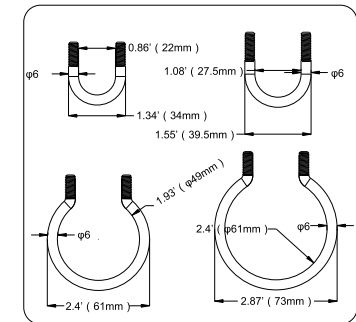
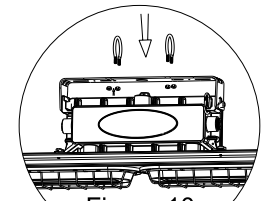

Figure 9
Figure 10
1. Can be equipped with 4 sizes of round tube light poles, the sizes are as following : $\phi 21\text{mm}$ 、 $\phi 27\text{mm}$ 、 $\phi 48\text{mm}$ 、 $\phi 60\text{mm}$ (Figure 9).
2. Select the appropriate bolts (Figure 9), assemble the bolts to the fixture, and install the nuts (Figure 10).